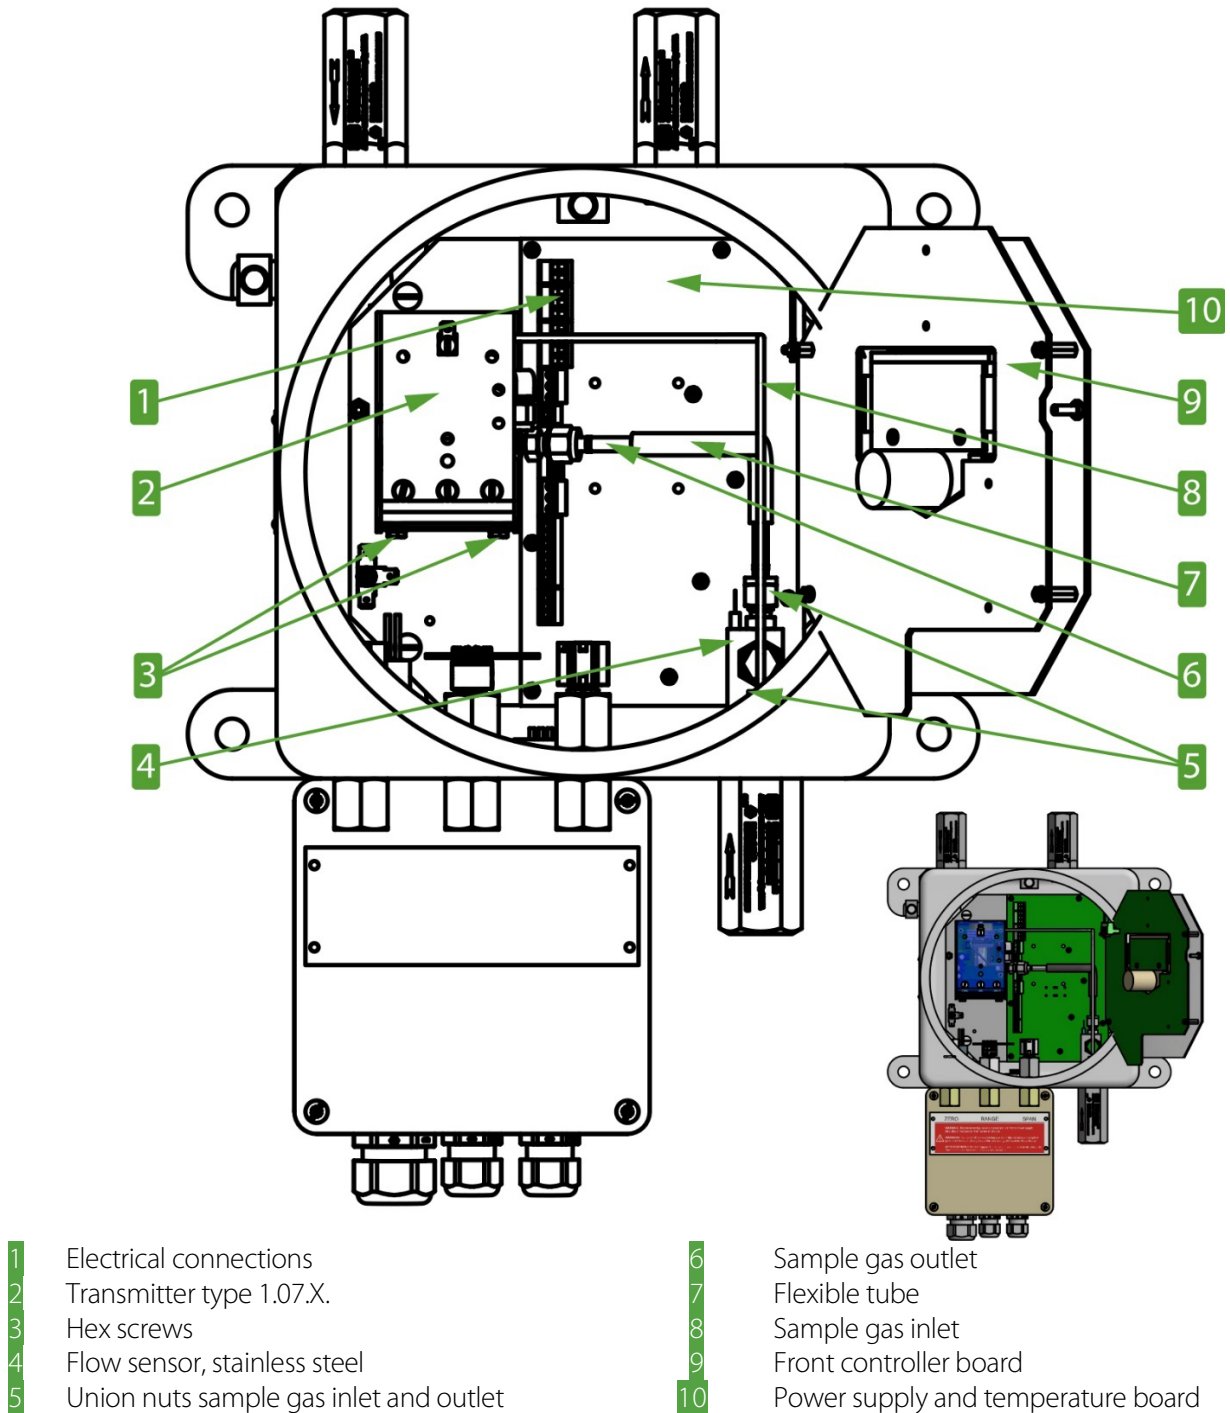

Figure 7 Drawing of the internal analyzer design
Figure 7 shows a drawing of the internal analyzer design **PMA 50 EX**.
- Loosen the threaded tube couplings **5** of the sample gas inlet and the sample gas outlet (see Figure 7);
- Loosen the earth connection (green-yellow) of the transmitter unit **2** (see Figure 7);
- Loosen the four hex screws **3** (see Figure 7) on top of the transmitter mounting plate;
- Loosen union nuts **5** at sample in- **8** and outlet **6** (see Figure 7);